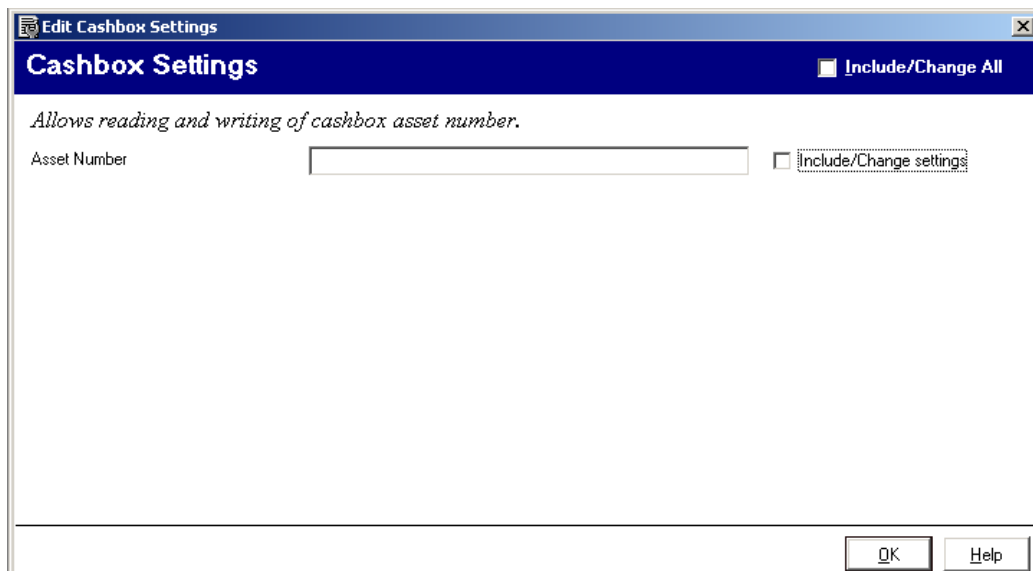

fig.5
5. Select the include/change box and type in the machine asset number and select OK. See fig. 5
**Note:** The machine's asset number will now be assigned to that particular cashbox and will be referred to as the cashbox asset number in fig.5.